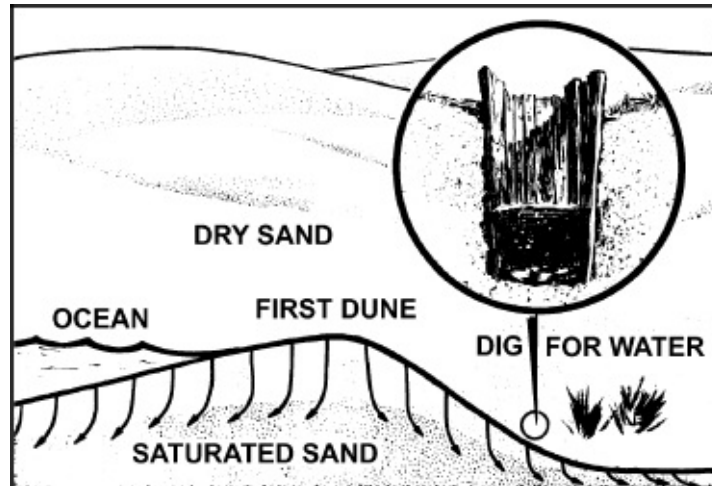
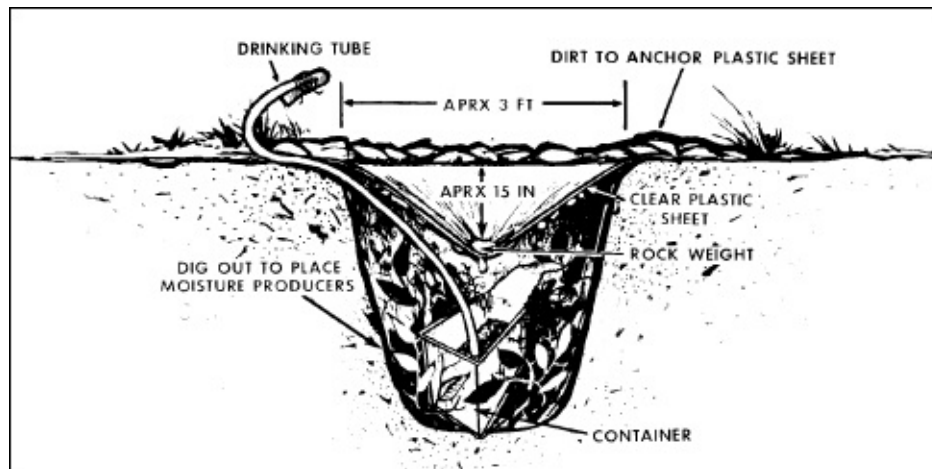

Figure 7-6. Beach well
Figure 7-7. Solar still
- Beach well. Along the coast, obtain water by digging a beach well (**Figure 7-6**).
(8) Dry areas.
- (a) Solar still (**Figure 7-7**).